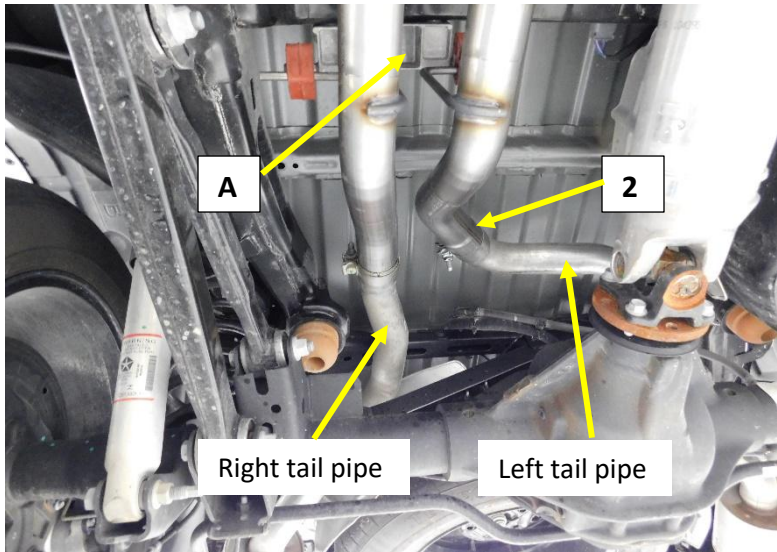
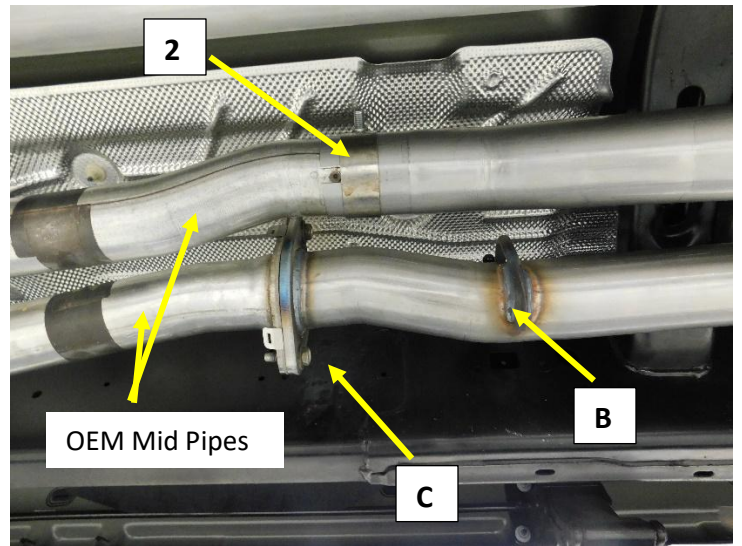

Figure. 4
Figure. 5
1. Apply penetrating oil to the rubber isolator at the 2-bolt flange. **See figure.5 (B)**
1. Install the 2 3/4" band clamp **(2)** on to the 818204 Direct fit left muffler outlet pipes reduced end, the second 2 3/4" band clamp **(2)** installs at the slip joint connection of the left muffler inlet pipe. Position the bolts to the right side and nuts facing down. **Fig.4 / Fig.5**
2. Install the Muffler hanger bracket **(A)** on to the tail pipe hanger rods. Be sure the bracket is facing the correct way. **Fig. 4**
3. Position the muffler assembly into the vehicle and align the left Muffler outlet pipe to the Left tail pipe. Work the tail pipe into the slip joint. Do not tighten the clamps . **Fig.4**
4. Align the Muffler inlet pipes to the OEM mid pipes. Install the left mid pipe into the left Muffler inlet pipe slip joint with the alignment pin in the slot. **Fig.5**
5. Align the Muffler inlet pipe hanger rod **(B)** to the isolator on the frame at the flange. Install the hanger rod into the isolator. **Fig.5**
6. Align the Muffler rear hanger bracket assembly (A) to the studs on the frame and install the (2x) 13mm nuts. **Fig.4**
7. Install the OEM bolts at the flange connection (C) between the right Muffler Inlet Pipe and the OEM mid pipe. Be sure the metal gasket is in place.